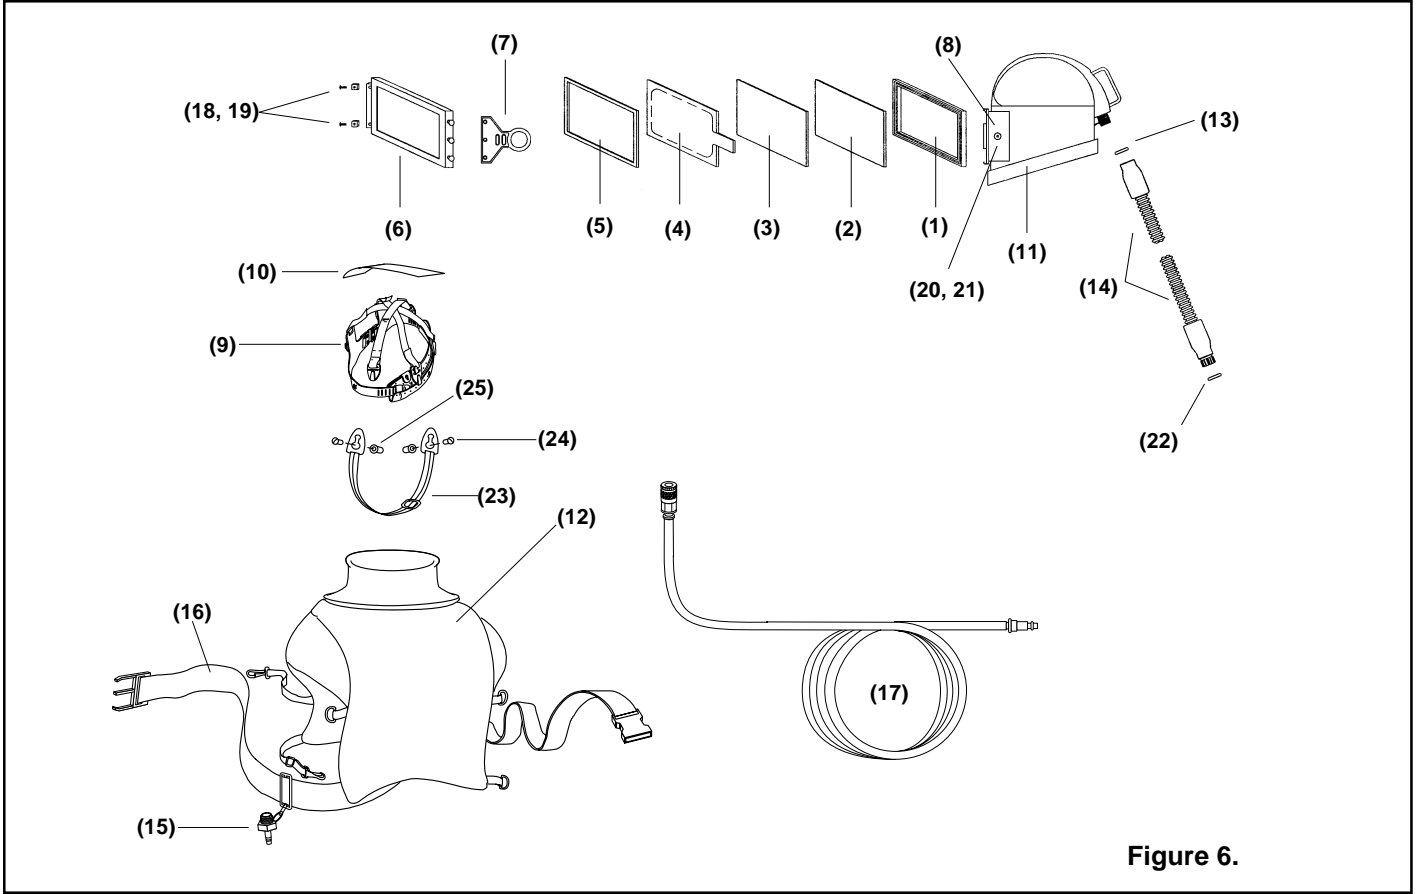

Figure 6.
10.2 Supplied-Air Respirator replacement parts, Figure 6